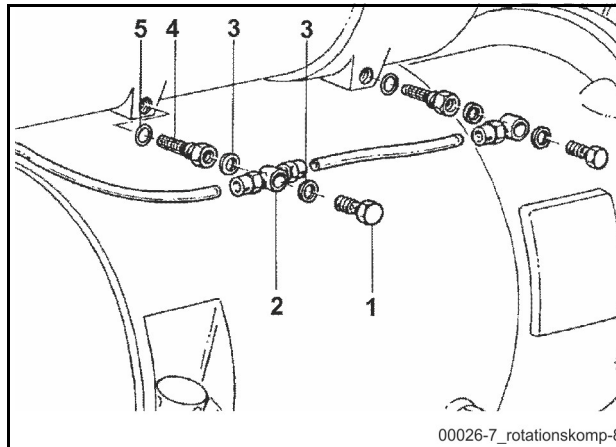

Fig. 218 Oil return valves
- Loosen the hollow screws **(1)** (**Fig. 218**).